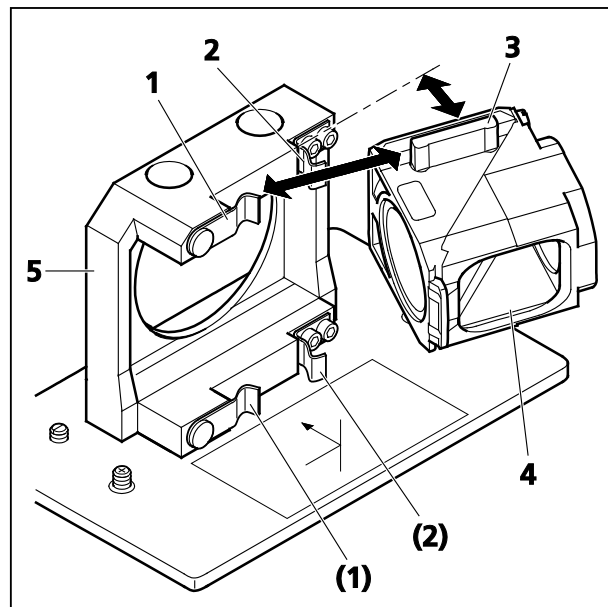

Fig. 18 Changing the filter module
- Disengage the filter module (Fig. 18/4) from the upper spring elements (Fig. 18/2) of the filter insert (Fig. 18/5) by tilting it forward, then lift it off the lower spring elements (Fig. 18/1) and remove the module.
- Insert the filter module (Fig. 18/4) with the aid of its mounting elements on its left and right (Fig. 18/3) into the lower spring clips (Fig. 18/1) on the filter insert.
- Press the filter module against the upper spring clips (Fig. 18/2) until it engages firmly.